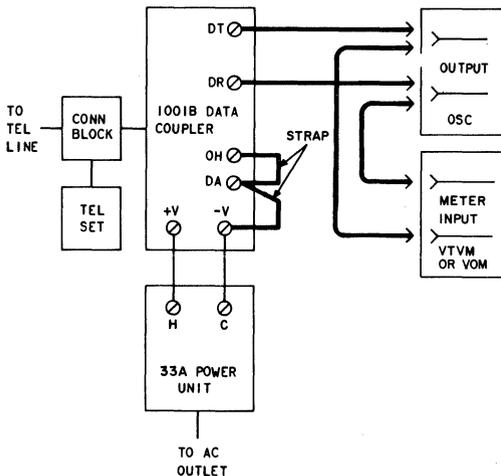

Fig. 15—Test Equipment Connections—Impedance Matching Test
- (1) Set the oscillator for a 1000-Hz frequency and a 600-ohm output impedance.
- (2) Select the proper scale on the VOM to measure  $-5$  dBm.
- (3) Connect the test equipment and straps as shown in Fig. 15.